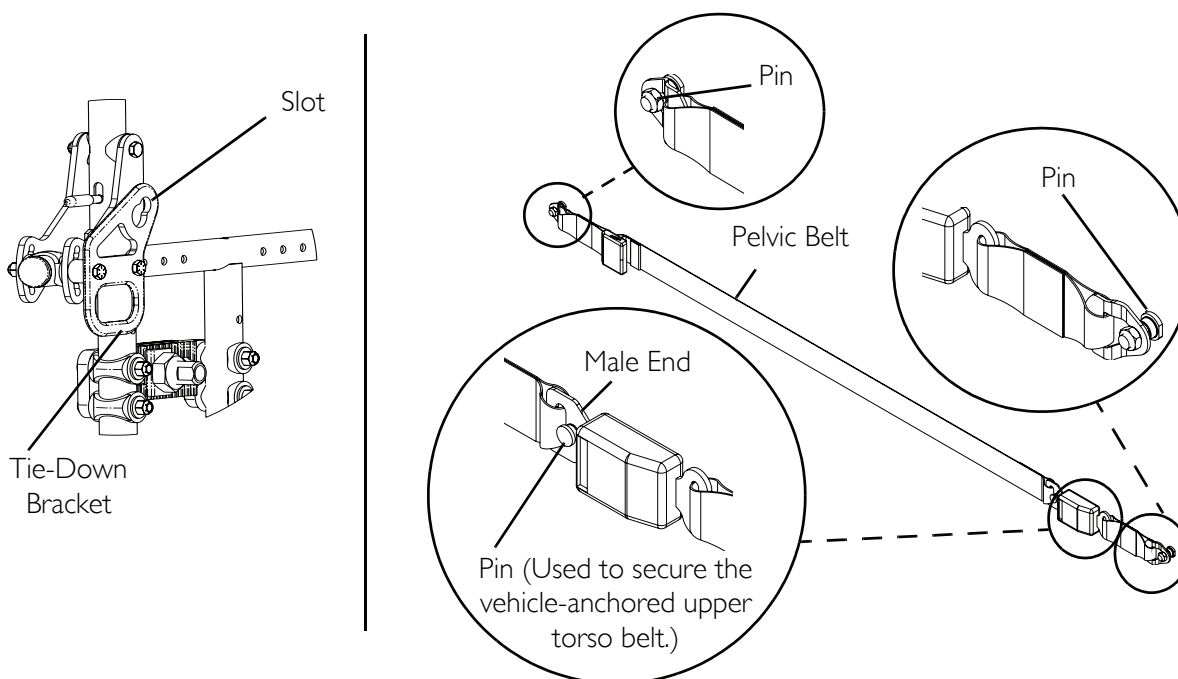

FIGURE 14.2 Wheelchair-Anchored Belts
NOTE: For this procedure, refer to FIGURE 14.2.
1. Install the pelvic belt pin (Detail "A" of FIGURE 14.2) into slot in the pelvic belt bracket. Pull upwards until it snaps into place.
NOTE: Note the position of the male end of the belt when installing the pelvic belt onto the pelvic belt brackets. The male end of the pelvic belt (Detail "A" of FIGURE 14.2) has a pin which is used to secure the vehicle-anchored upper torso belt.